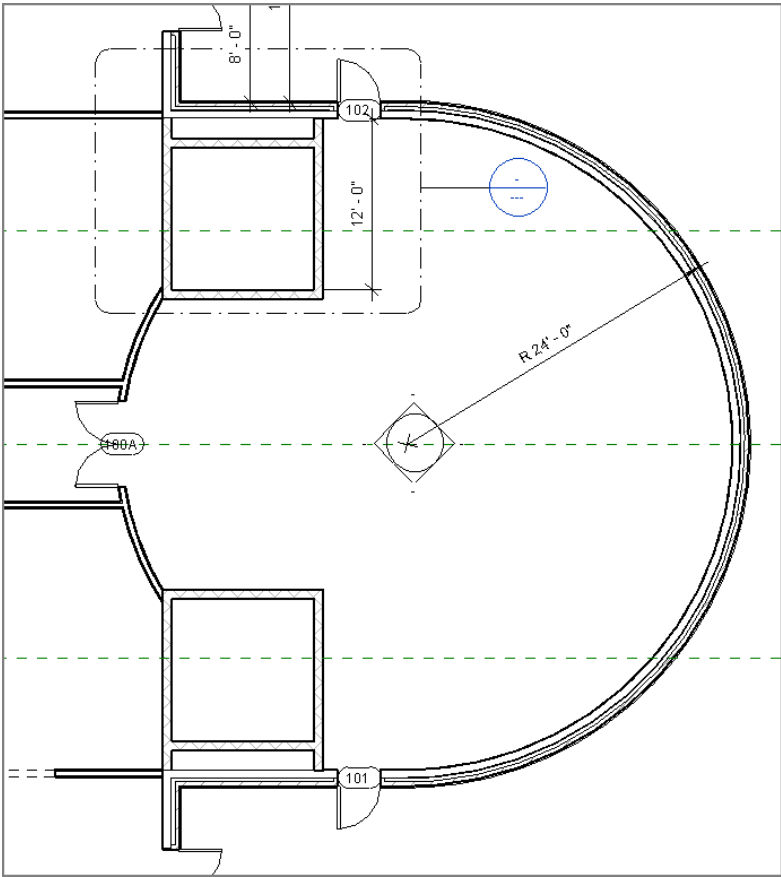

FIGURE 5.46: The radial entry
2. Zoom in on the east wing's radial entry area, where the elevator shafts are located, as shown in Figure 5.46.